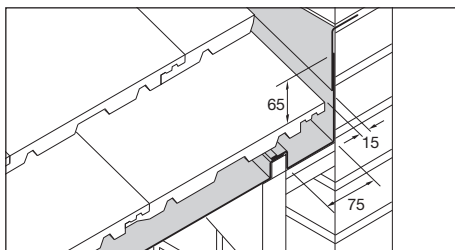

Fig. 27 – Secret gutter
- 11 Lay tiles to leave a gap of 15mm by the side of abutment (Figs. 27 and 28).